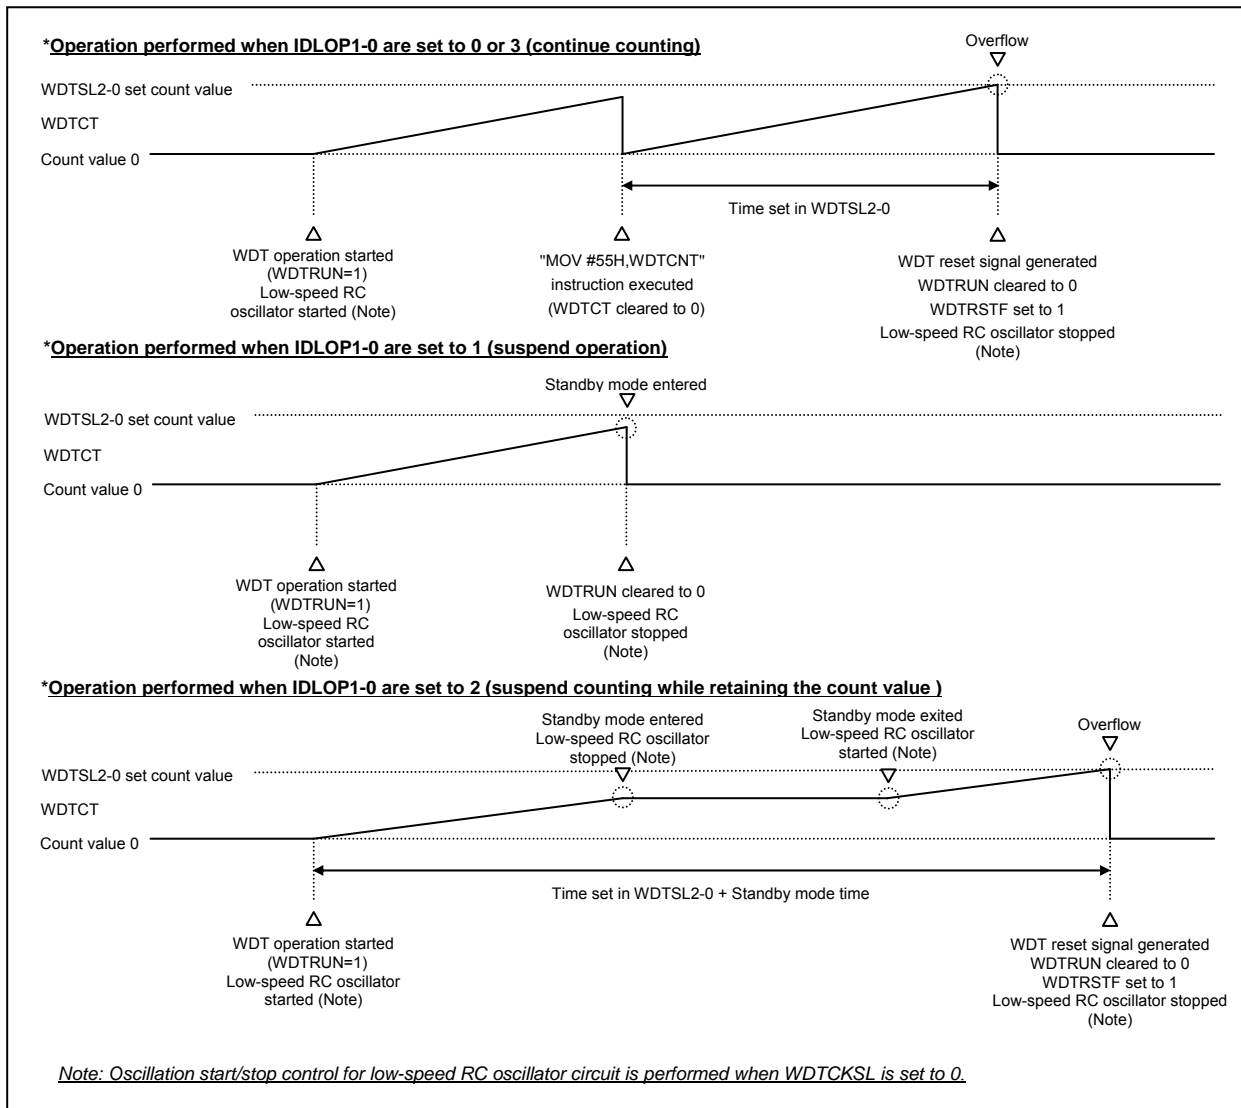

Figure 4.6.2 Sample Watchdog Timer Operation Waveforms
* See Figure 4.6.2 for details on WDT operation.
* See "Figure 4.6.2" for details of the WDT operating modes.